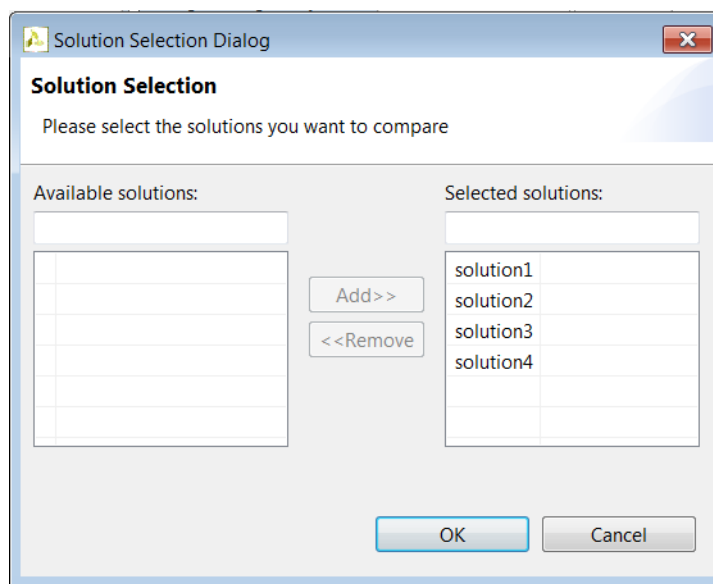

Figure 4-27: Compare All Solutions for Lab 3
12. In the Solution Selection dialog box, add each of the four solutions to the Selected Solutions pane (Figure 4-27).